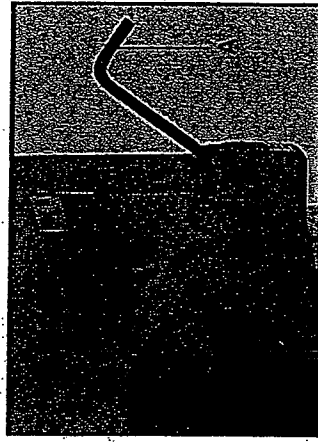

Fig. 7
3. Insert allen wrench (A) Fig. 7, as shown, to contact locking plate. Tap lightly to release and remove locking plate.